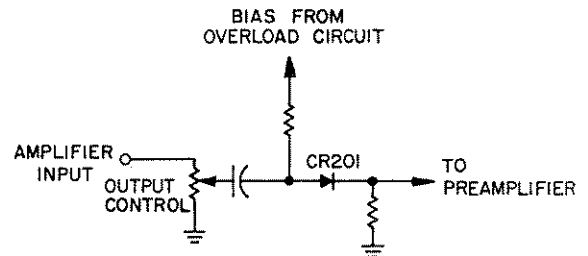

Figure 4-3. Diode gate circuit.
**4.3.2 DIODE GATE CIRCUIT.** See Figure 4-3. Diode CR201 connects the input signal to the AMP INPUT terminal. When it is forward-biased by signals from the overload circuit, it has negligible impedance. When it is back-biased, it is essentially an open circuit, which prevents signal current from flowing to the output.